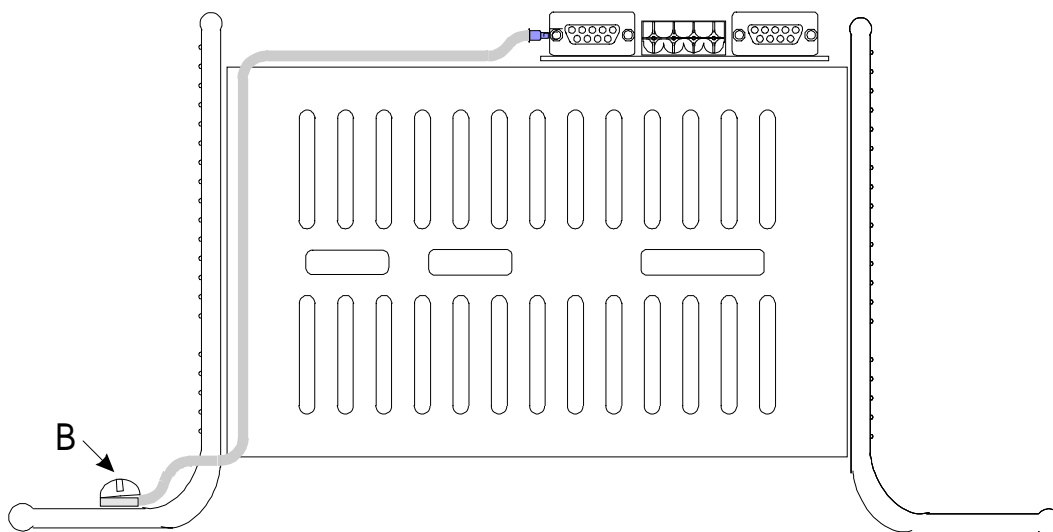

Figure 8.5 – Panel Mounting Screw
- e. Route the grounding wire along the front of the drive and connect the stripped end to the panel mounting screw marked "B" on Figure 8.5.